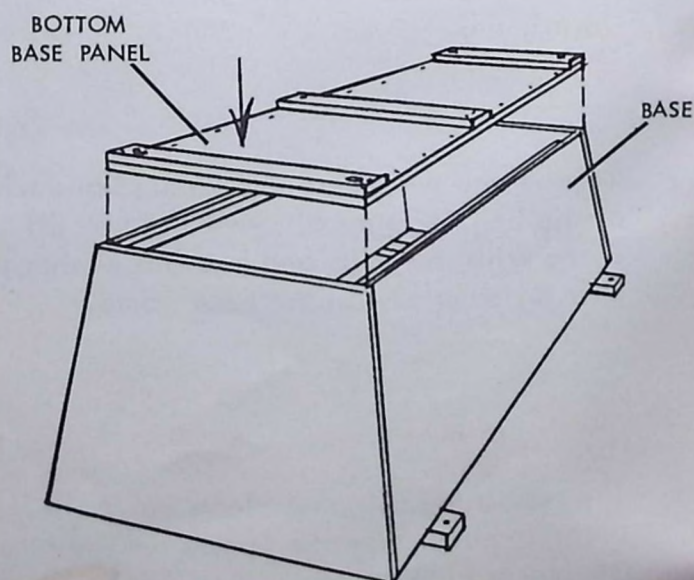

FIGURE 9
12. Place bottom panel over base assembly. (Figure 9)